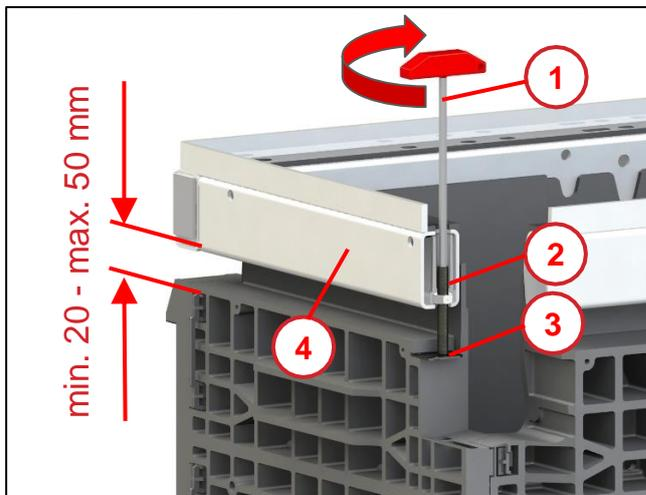

Fig. 37
- Place the steel frame (1) back on the manhole.
Push the set screws (2) from the earlier height adjustment through the dry mortar (3) while it is still soft, until they are back in contact with the support plate (see Fig. 37 - item 3).